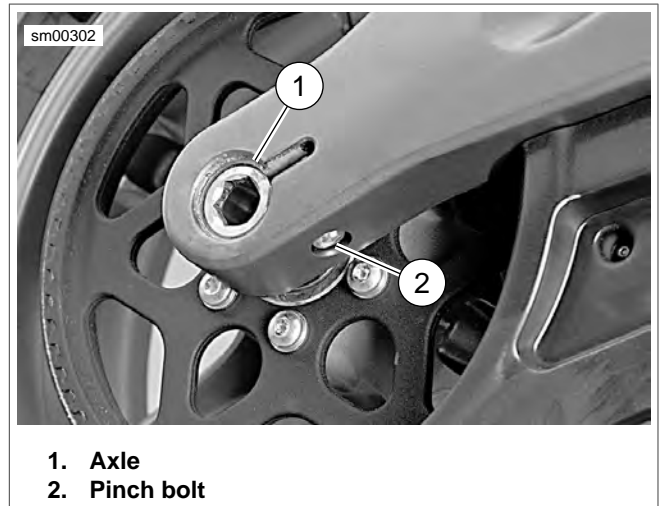

Figure 5-104. Rear Axle
- See Figure 5-104. Tighten rear axle (1) to 23-27 ft-lbs (31.2-36.6 Nm), back off two full turns and then retighten to 48-52 ft-lbs (65-70.5 Nm).
- Tighten pinch fastener (2) on right side of swingarm to 40-45 ft-lbs (54-61 Nm).